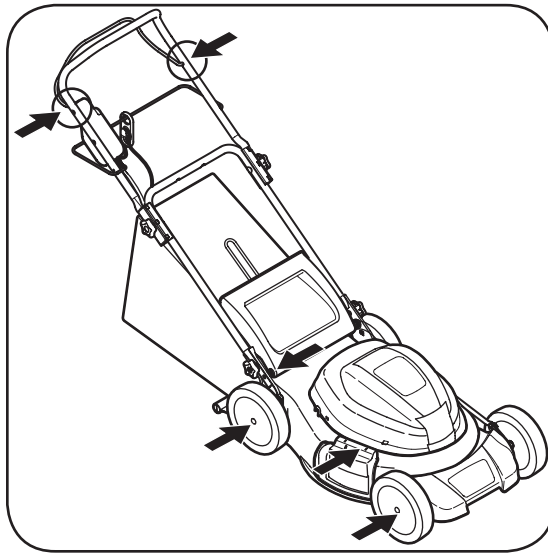

Figure 5-1: Areas to lubricate on the mower.
- Lubricate the wheels at least once a season with light oil (or motor oil). If wheels are removed for any reason, lubricate surface of the pivot arm and inner surface of the wheel with light oil. See Figure 5-1.
- Lubricate the torsion spring and pivot point on the rear discharge door and side mulch plug periodically with light oil to prevent rust. See Figure 5-1.